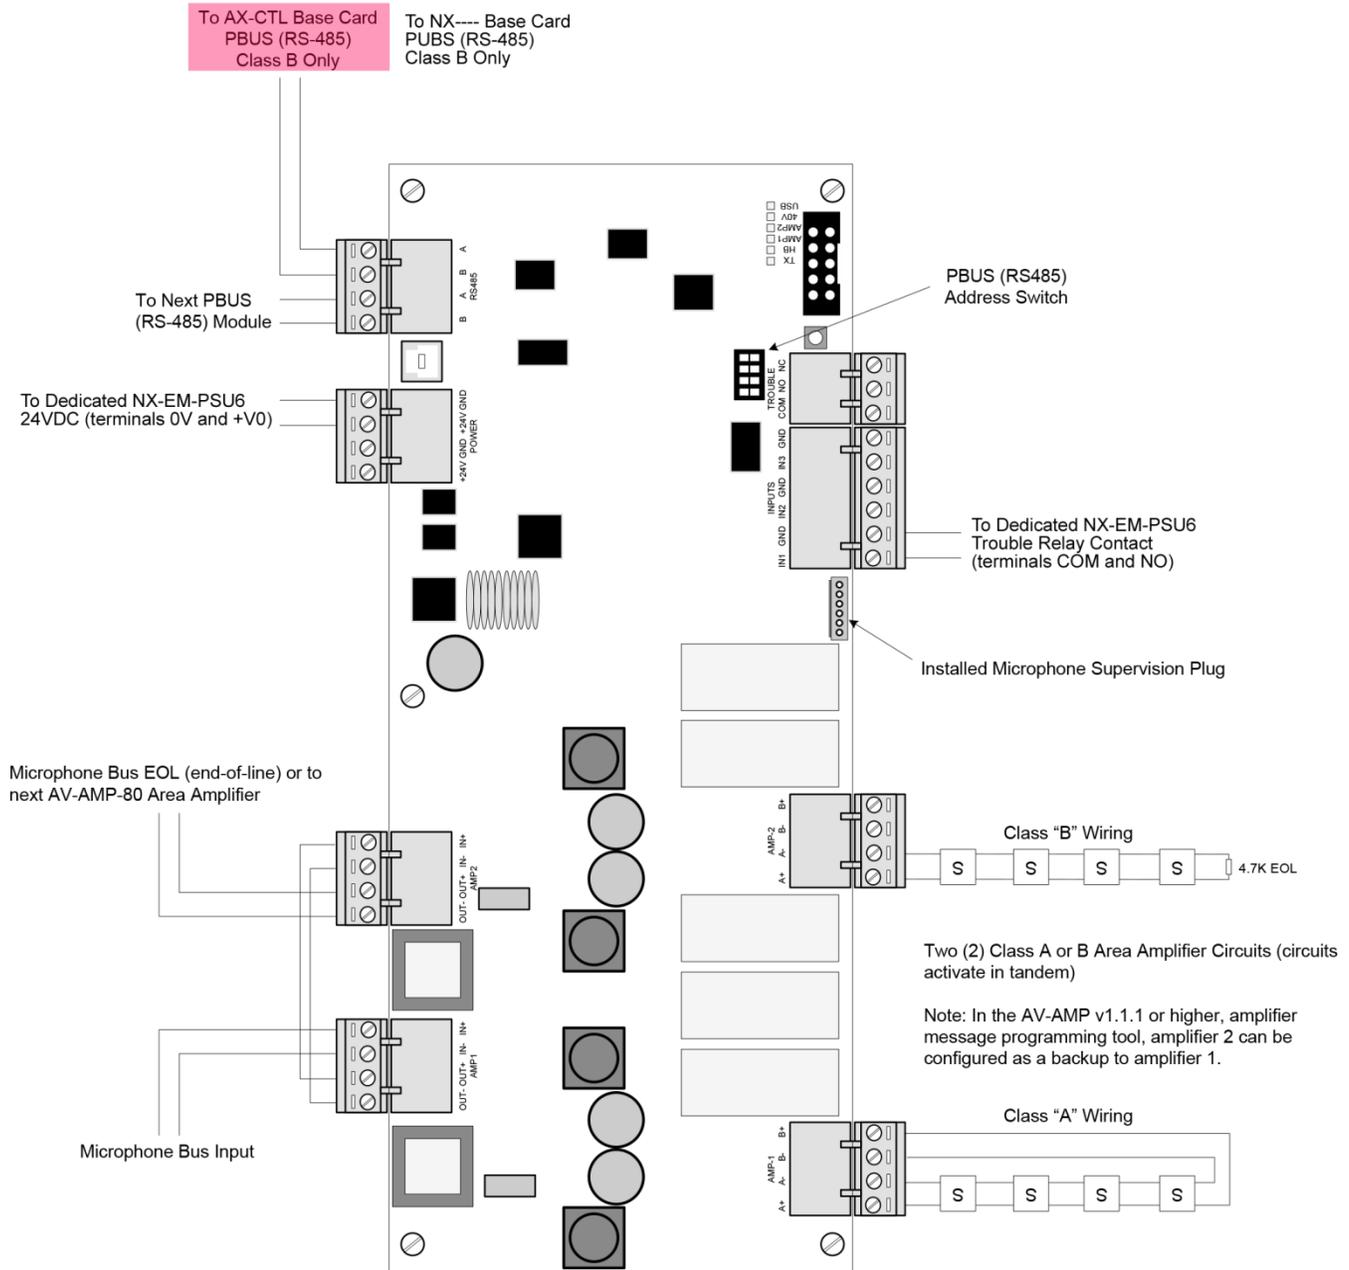

Figure 23 – Floor (Area) NX-AMP-80 Amplifier
When configured as a PBUS (RS485) amplifier the NX-FACP-1L, NX-FACP-2 and NX-FACP-4 intelligent fire alarm control panel’s optional amplifier would be programmed as a PBUS (RS485) floor [area] (see figure 23). Floor (area) amplifiers can support up to sixteen (16) field programmable messages (refer to NEO NX-AMP Audio Message Programming Manual regarding message programming) which can be tailored to meet specific installation messaging demands; such as alarms, alerts, warnings, mass notification and other event messaging requirements. Messages can be automatically activated (with programmable prioritization) or manually activated based on installation needs. Identical messages played simultaneously throughout a facility via multiple NX-AMP-80 floor (area) amplifiers can be programmed for complete synchronization, avoiding any broadcasting message confusion. In addition, multiple synchronized messages can be broadcasted when installation demands require this functionality (i.e.: alarm message to fire floor, floor above and below, alert message to the remainder of the facility).